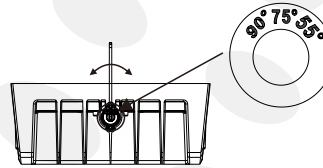

figure 3.2
2. Adjust the handle to the desired Angle by turning it left and right, as shown in the picture. (figure 3.2)